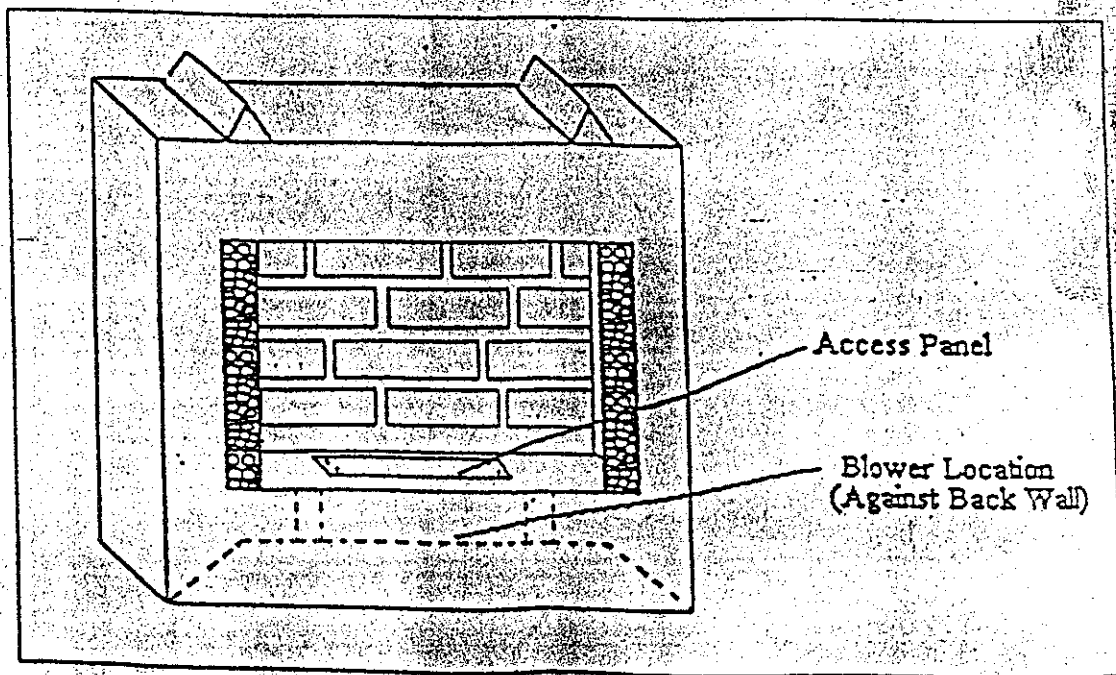

Figure 1 Access panel and Blower Location
1. Remove the access panel on the floor of the fireplace by removing the sheet metal screws (See Figure 1).